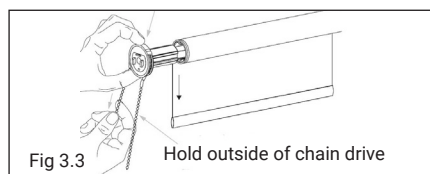

Fig 3.3
- If the blind is too heavy to operate in the downward direction (when operating the blind down) you can reduce tension by taking the blind out of the brackets, sliding the chain drive out of the tube and reversing the directions above by operating the chain to raise the blind while holding the outer casing of the chain drive with your fingers. Remove one complete turn, then reinsert the chain drive into the blind, install the blind and test operation (Fig 3.3).